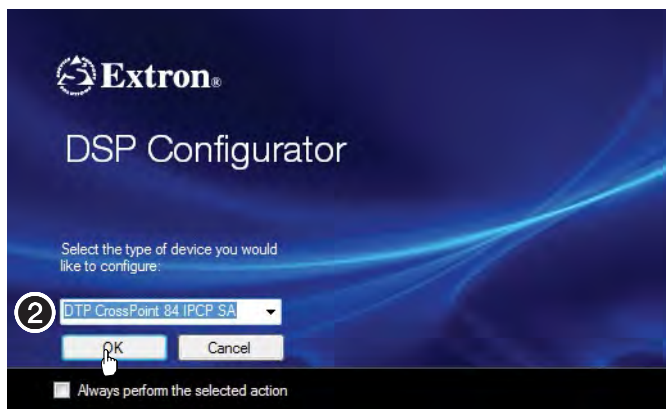

Figure 15. DSP Configurator Screen and Device Selection
1. Click **Start > Programs > Extron Electronics > DSP Configurator > DSP Configurator**. The DSP Configurator startup screen displays (see figure 15).